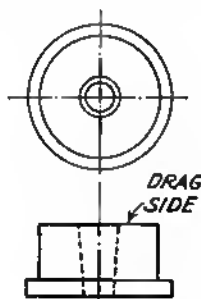

FIG. 96.
1. Lay pattern (Fig. 96) on the bottom board with drag side up.